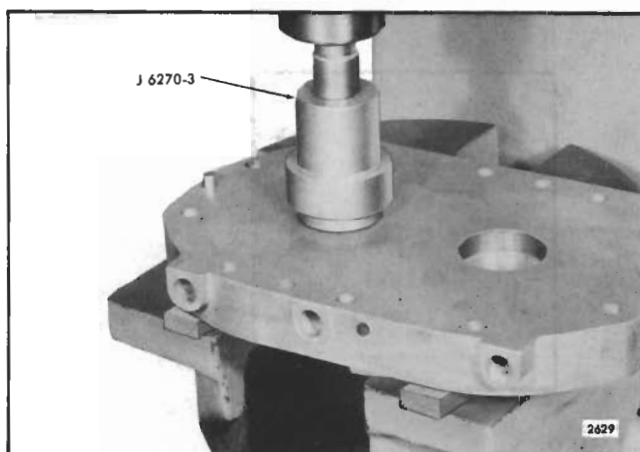

Fig. 10 - Installing Oil Seal (or Oil Seal Ring Collar) in End Plate
- c. Place the short end of oil seal remover and installer J 6270-3 in the oil seal and under the ram of the press (Fig. 10). Then press the oil seal into the end plate until the shoulder on the installer contacts the end plate.
- f. Support one of the blower end plates, inner face up, on wood blocks on the bed of an arbor press as shown in Fig. 10.
- h. Place the oil seal ring collar installer J 6270-3 on top of the seal ring collar and under the ram of the press (Fig. 10). Then press the collar into the end plate until the shoulder on the installer contacts the end plate.